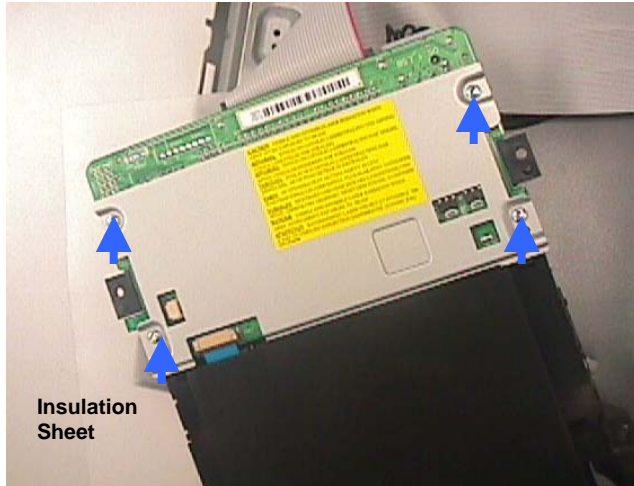

Figure 6 - Basic Engine Service Position
- 2) Flip the Basic Engine over to remove 4 screws from the PCB protection plate. Service Position of the Basic Engine is shown in Figure 6.